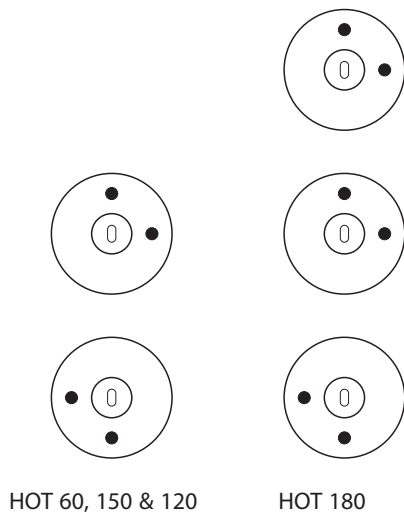

fig 1. Bracket Positions
- Fit air vent (A).
- Depending on radiator height, drill two or three 12mm diameter holes to a minimum depth of 65mm & insert wall plugs (B).
- Attach brackets (C) to wall with screws (D).
- Position brackets (C) on wall with grub screw holes as shown in figure 1 for maximum rigidity before tightening screws (D).
- Hang radiator onto brackets (C) by inserting lugs into brackets (C).
- Tighten grub screws (E) with Allen key (F).